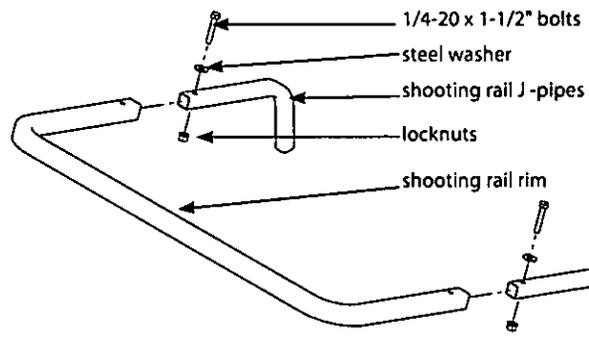
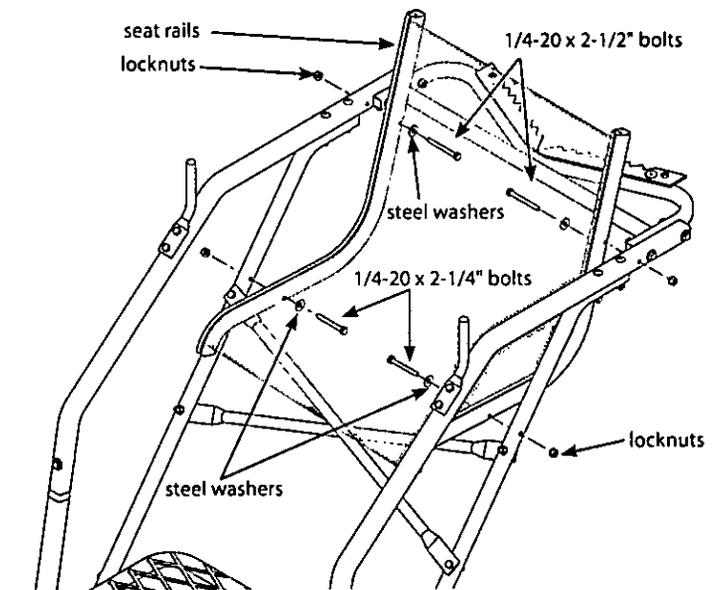

Figure 6
Figure 7
8. Insert the shooting rail J-pipes (410113) into the shooting rail rim (10394). Secure together using (2) provided 1/4-20 x 1-1/2" bolts, locknuts and steel washers. **SEE FIGURE 6.** You must now tighten all nut and bolt assemblies. **Be sure not to over tighten or crush tubing when tightening!**
a. Using (2) provided 1/4-20 x 2-1/2" bolts, locknuts and steel washers, attach the upper portion of each seat rail to the main side rails.
**SEE FIGURE 7.** It is important to have the bolt head on the seat rail side and the locknut on the main side rail side for ease of assembly. **FINGER TIGHTEN THESE TWO BOLTS ONLY AT THIS TIME.**
b. Using (2) provided 1/4-20 x 2-1/4" bolts, locknuts and steel washers, attach the lower portion of each seat rail to the upper ladder support tubes. **SEE FIGURE 7.** It is important to have the bolt head on the seat rail side and the locknut on the upper ladder support tube side for ease of assembly.